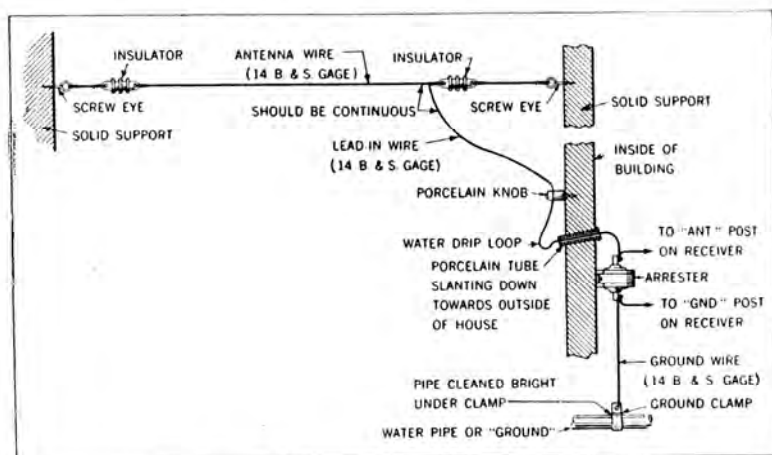

Fig. 20—Outdoor Antenna on rigid supports
The installation of an outdoor antenna, mounted on rigid supports, can proceed in the following order, as shown in Fig. 20.
and then twisting the wire tightly around itself for five or six turns, as shown in Fig. 20. The other end of each of these wires is inserted through the holes in the screw eyes and twisted tightly around itself for five or six turns, thus making the insulators secure to the supports.
- (h) The protector is best located inside the building, immediately below the inner end of the porcelain tube, as shown in Fig. 20, so that the lead-in wire can be fastened directly to the top binding post of the arrester. The "National Electrical Code" requires that the
- (k) A second piece of the No. 16 B. & S. gauge rubber covered and braided copper wire should be used to connect the ground (GND) binding post of radio receiver with the binding post of the protector to which the protector ground wire is fastened, as shown in Fig. 20. This second wire should be kept separated from the first or antenna connecting wire by a distance of several inches for the entire length from the receiving set to protector. If a cold water pipe or other grounded metal work is close to the receiving set, it is advisable to run the ground wire by this shorter route to ground, as shown in Fig. 21, rather than by way of the protector ground wire.